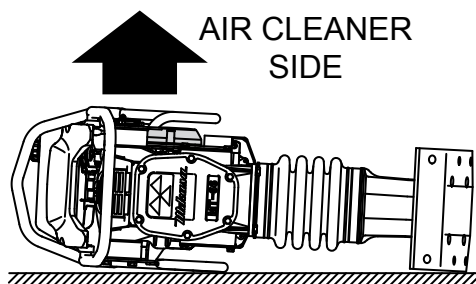

Figure 19. Transporting Rammer
- If you must lay the machine down to transport it, drain any fuel from the fuel tank and carburetor. Then close the fuel tank cap and oil fill plug securely. Next, position the machine so that the air cleaner will be facing up (Figure 19).